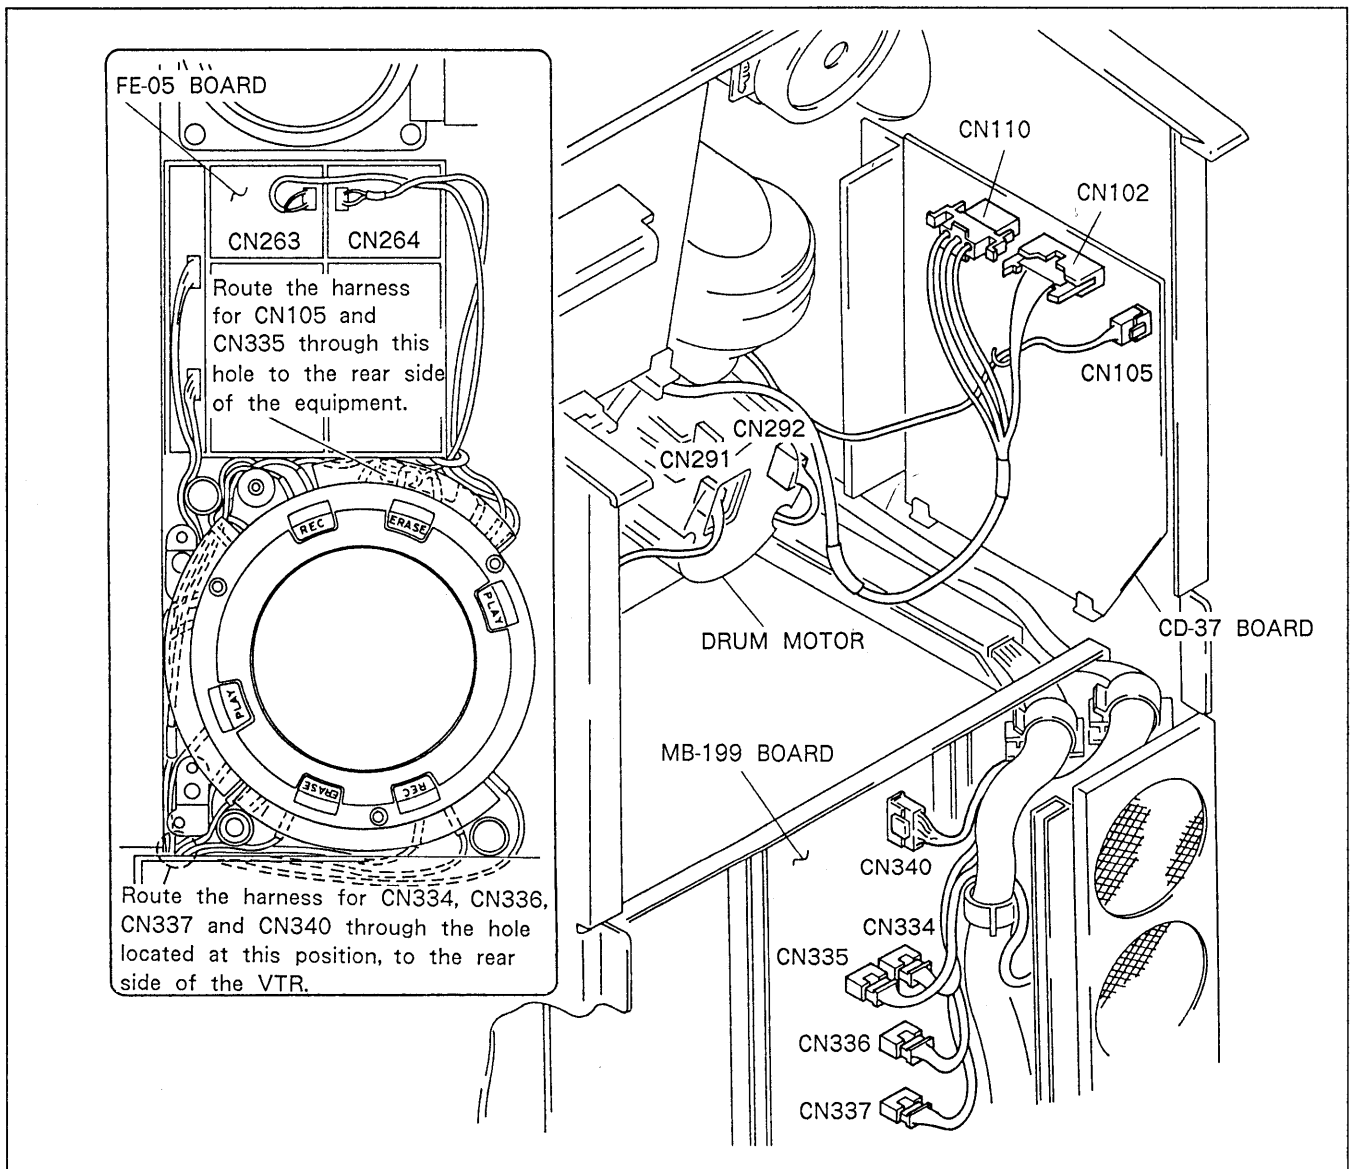

Fig. 6-2-2. Drum Harness Removal/Installation
1. Remove the three screws ① and remove the upper drum lid.
3. Disconnect the ten connectors, as shown in Fig. 6-2-2, from the CD-37 board, MB-199 board and drum motor.
14. Connect following connectors as shown in Fig. 6-2-2.